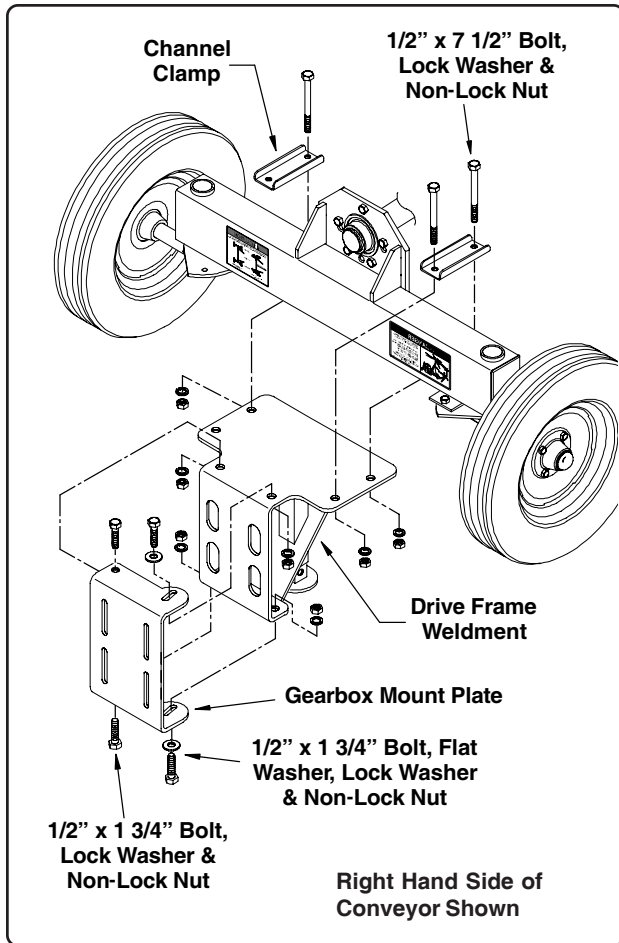
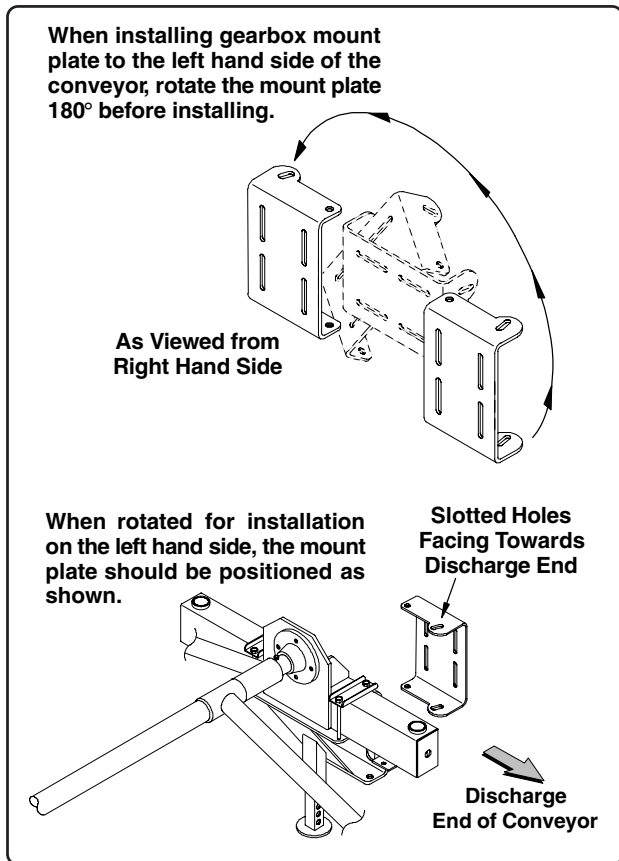

Fig. 2
Fig. 3
1. Attach the drive frame to the swivel axle using the two channel clamps as shown in Fig. 2. Secure the clamps using four $1/2" \times 7 1/2"$ bolts, lock washers and non-lock nuts.
2. Attach the gearbox mount plate to the drive frame. Secure using four $1/2" \times 1 3/4"$ bolts, two flat washers, four lock washers and four non-lock nuts (position a flat washer over the slotted hole on the top and on the bottom of the gearbox mount plate, See Fig. 2). **NOTE: For mounting on left hand side, the gearbox mount plate should be mounted in reverse of what is shown in Fig. 3 (rotate the mount plate 180° so when installed, the slotted holes are facing towards the discharge end of the conveyor).**